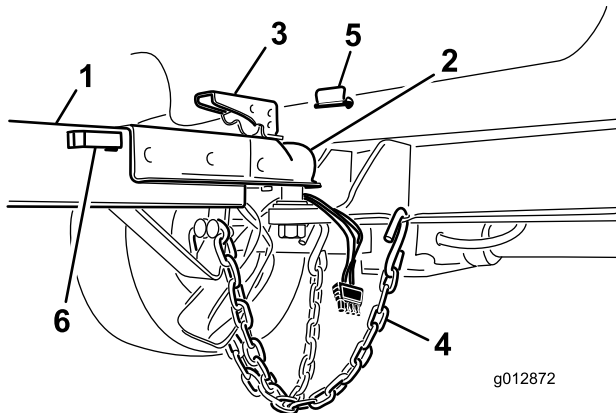

Figure 14
2. Lift the lever on the tongue while lowering the cover over the ball hitch (Figure 14).